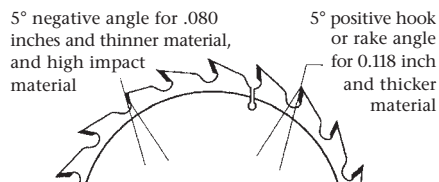

Figure 2. To minimize chipping of thin Tuffak® polycarbonate sheet when using a circular saw, choose a blade whose teeth have a negative rake angle of about 5°.
- Try a blade with a negative rake angle of about 5° (Figure 2).